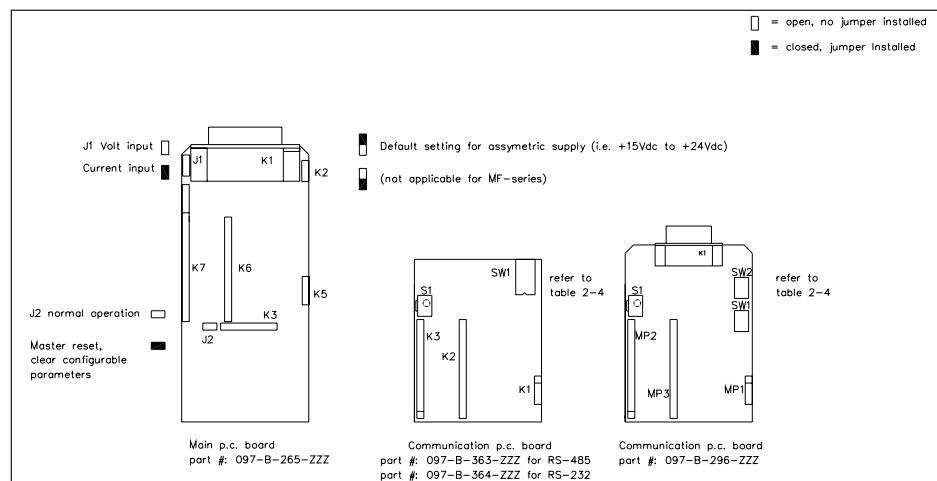

Figure 2-2: p.c. boards with the locations of jumper switches
Analogue Setpoint Input (pins 7/8 and 1; Controller models only) . The Smart Mass Flow Controller can be used either with a current or voltage Set point. To use the current Set point, connect the Set point signal to pin 7 and the Set point return signal to pin 1 on the terminal (jumper J1 must be in place refer to Figure 2-2). To use the voltage Set point, connect the Set point signal to pin 8 and the Set point return to pin 1 on the D-connector.
common) on the D-connector. If a -15 Vdc power supply is required, pin 6 must be connected and jumper [K2] on the p.c. board must be set the lower position (see Figure 2-2).
- Brooks Smart Mass Flow Meters and Controllers incorporate two printed circuit boards: one main board containing the processor and a piggyback board. The piggyback board enables the device to communicate with a PC via an RS-232 or RS-485 connection. The piggyback board is installed via the K5, K6 and K7 connectors on the main board (see Figure 2-2).